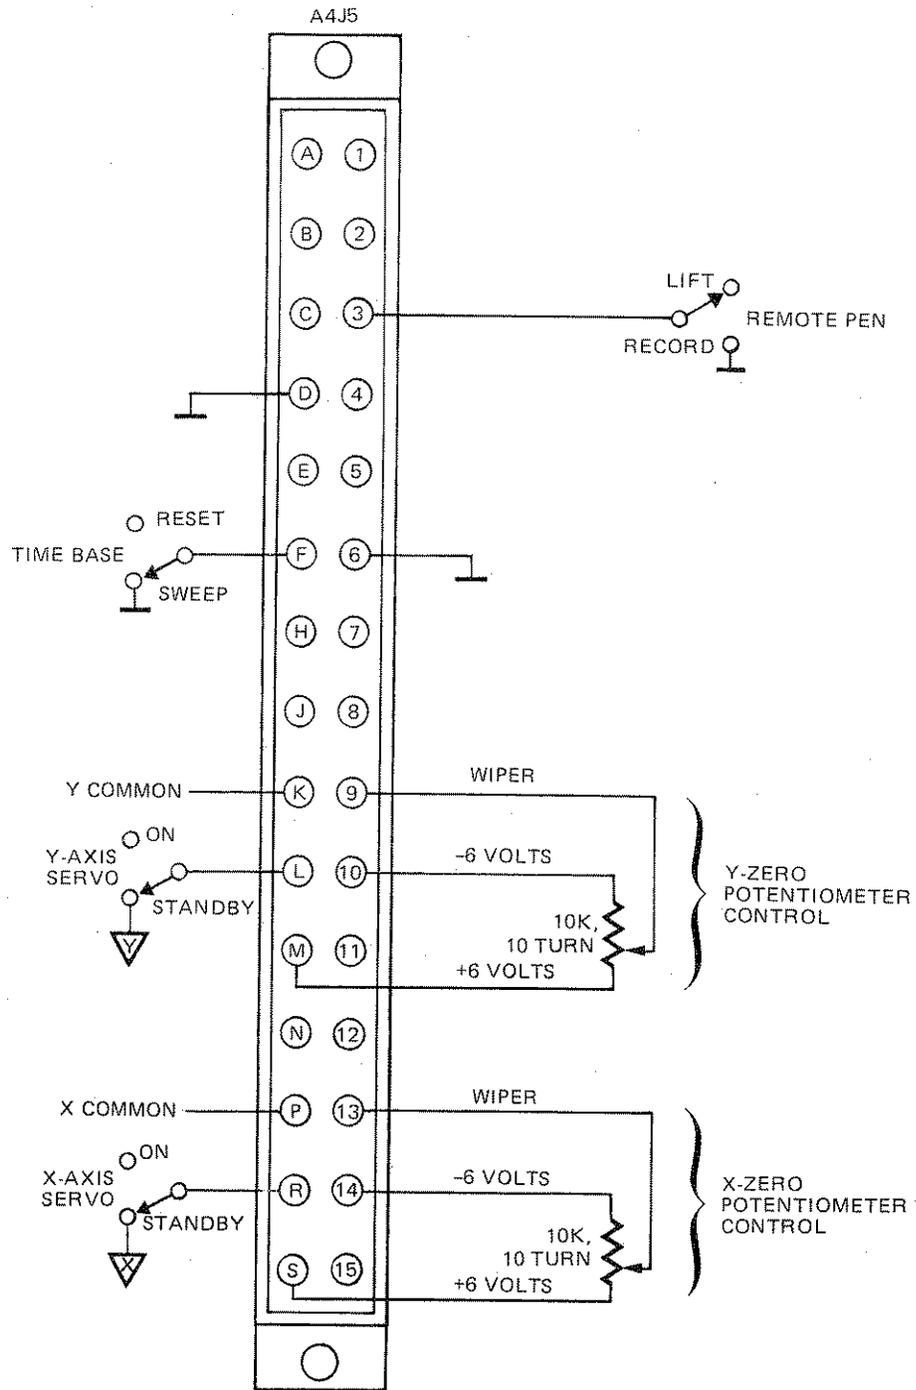

Figure 3-3. Remote Control Connector.
3-19. Servo ON/STANDBY may also be controlled through the Remote Control Connector A4J5. Through the rear connector it is possible to control each axis individually. The X-axis control is pins P and R. The Y-axis control is pins K and L. See Figure 3-3.
3-24. Zero position may also be controlled through the Remote Control Connector A4J5. This is achieved by installing two (2) 10K ohm 10 turn potentiometers as illustrated in Figure 3-3. Front panel ZERO potentiometers are unplugged when using remote zero control.
3-34. To lower the pen onto the graph for plotting press the PEN RECORD pushbutton. The PEN RECORD/LIFT may also be controlled remotely through the rear connector A4J5 with the 30 pin connector (HP Part No. 1251-2799) supplied in the accessory kit. See Figure 3-3.
3-39. The X-INPUTS/X-TIMEBASE function may be controlled through the remote control connector A4J5 by installation of a double pole double throw switch as illustrated in Figure 3-3. The SWEEP/RESET control may also be controlled remotely by contact closure between pins D and F of the remote control connector.